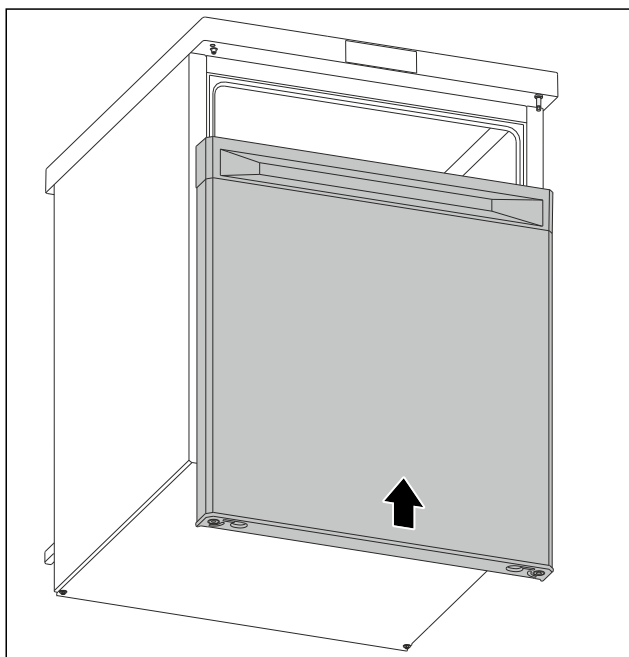

Fig. 13
- ▶ Slide the door onto the upper bolt when it is closed. (see Fig. 13)